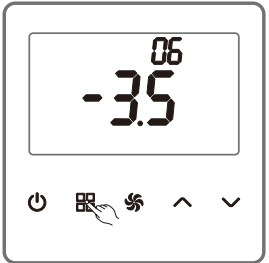

Figure 12
As shown in the Figure 12, on the parameter setting page, press  (MODE) to switch the option number to 06.  (UP) or  (DOWN) is provided to a 0.5°C increase or decrease within -5°C~+5°C.